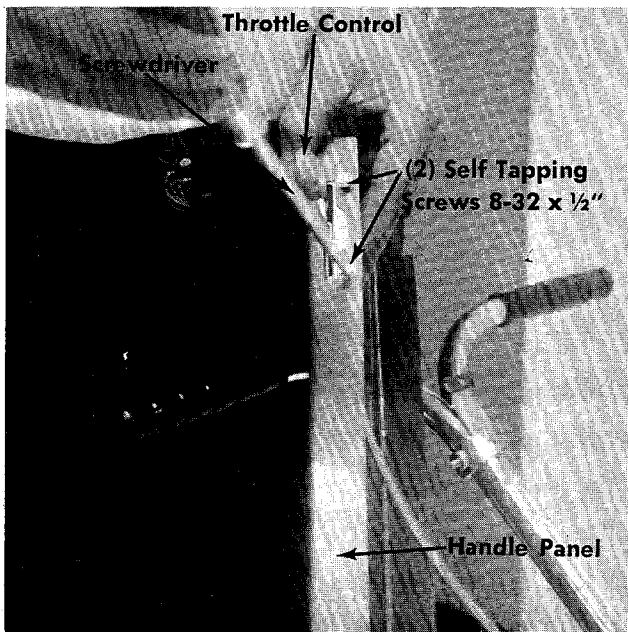

**FIGURE 12. LOCKOUT BRACKET ASSEMBLY**
- d. Place the lockout bracket assembly under the "T" portion of the upper handle with the bolt ends facing up. See figure 12.
- e. Place the clamp bracket over the bolt ends in the lockout bracket assembly and secure with three (3) Hex Center Lock Nuts  $\frac{1}{4}$ -20 Thd. See figure 12. Tighten nuts tight.